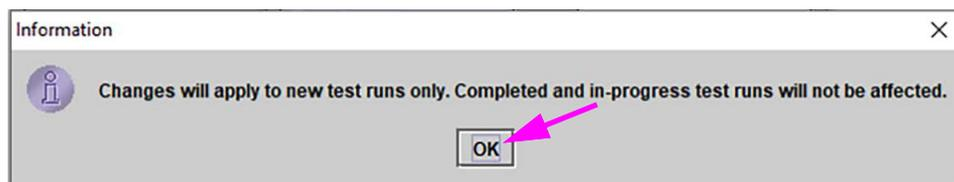

Figure 5-29. Changes Advisory Dialog
- When all desired Displayed Results have been moved to the Masked Results column, click the **OK** button at the bottom of the Configure Results Masking overlay. An advisory dialog will appear stating that changes will apply to new test runs only (see Figure 5-29).